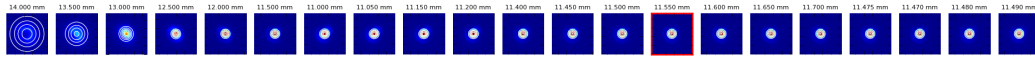

FIGURE 2.4: PSFs example of an alignment procedure
1. Find the focus point on the camera using `AlignementScriptXimeaCamera.py`, see Appendix B.1. This script saves consecutively PSFs at different camera's position and computes their FWHM. And it highlights the minimum FWHM and the camera's position, see Figure 2.4.